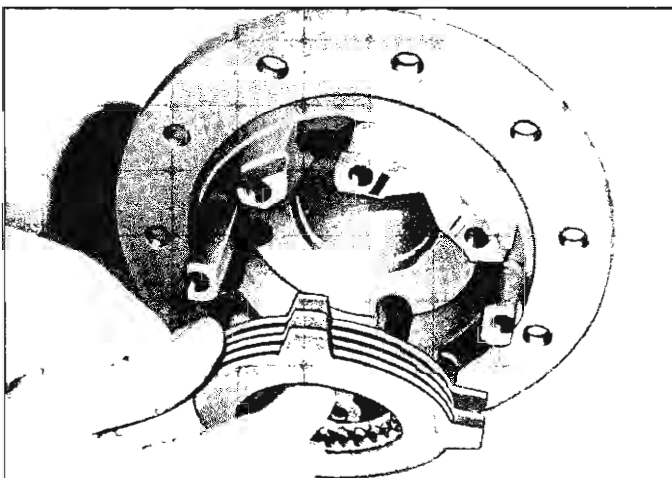

Fig. 39—Installing Clutch Plates
1. Lubricate each clutch disc and plate and install in ring gear flange half of case, stacking in the following manner (fig. 39):